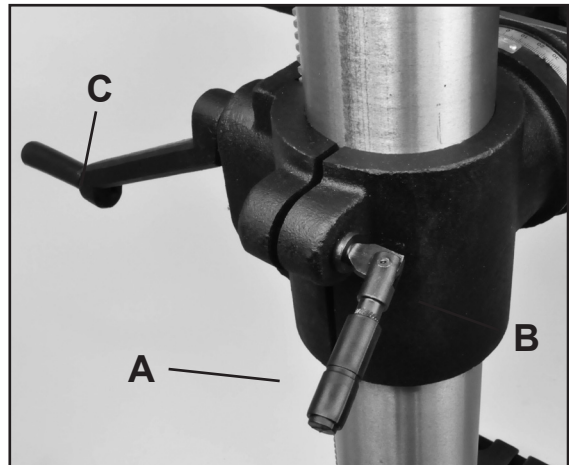

Figure 19
1. Loosen the column lock handle (Figure 19, A) on the table support bracket (B).
2. Turn the crank handle (C) to raise or lower the table to the desired height.
3. Tighten the column lock handle (A).